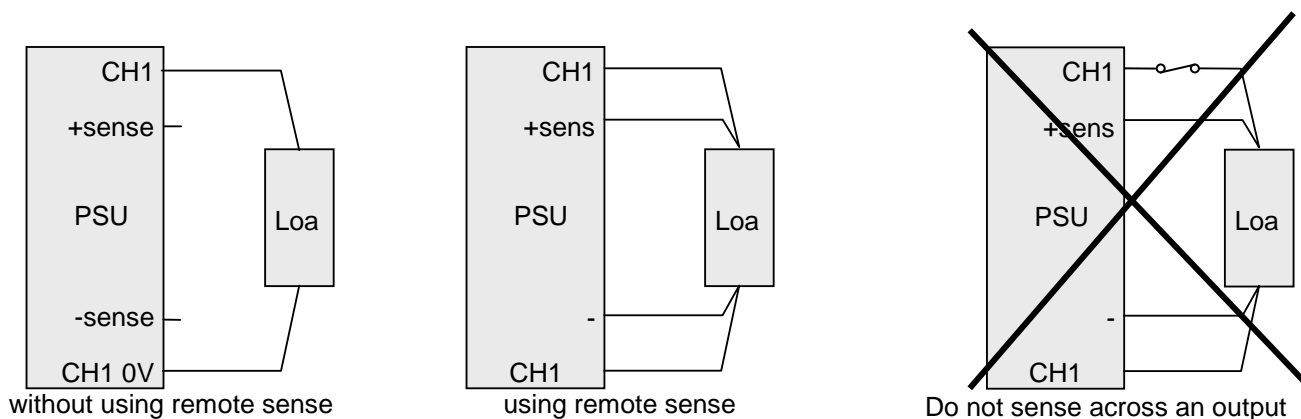

Figure 1: How to connect power supply to load
- If remote sense is required, connect '-sense' and '+sense' to the corresponding point at the load (see Figure 1 for details)